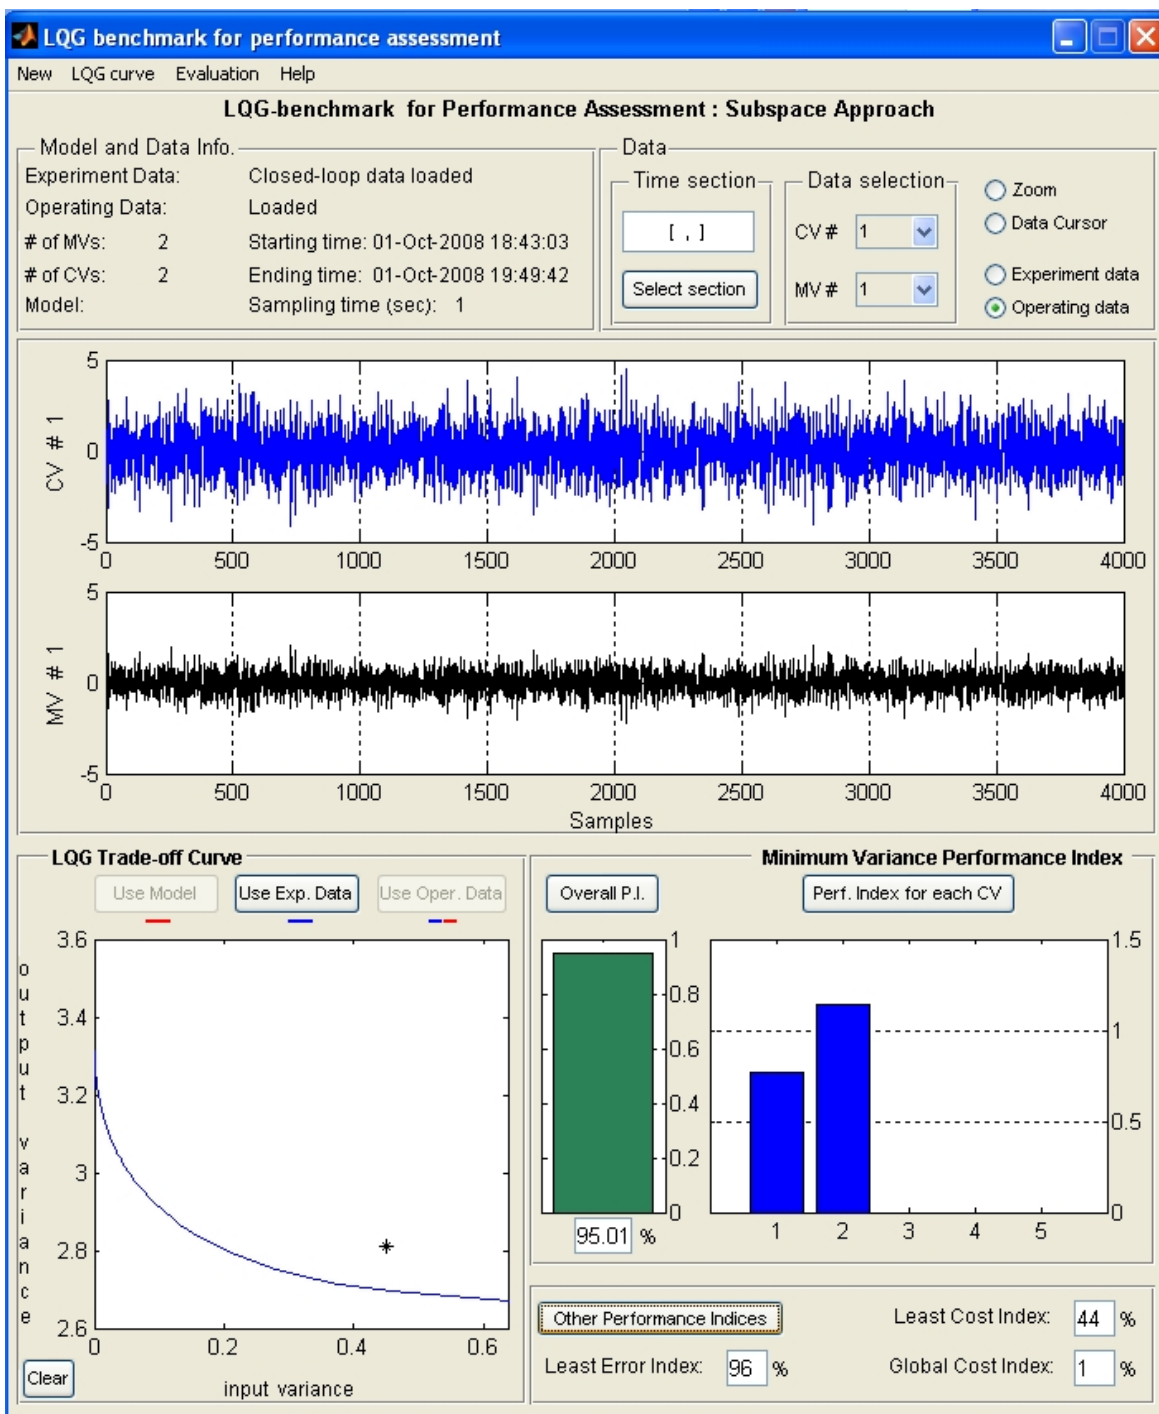

Figure 7: Performance indices obtained for a MIMO process
| Figure 7: Performance indices obtained for a MIMO process.....           | 7  |
- 13) Upload a set of closed-loop routine operating data. The corresponding input-output variance point (actual control operating point) will appear on the figure as in Figure 7.
- 14) At this time you can have all the performance indices. To get the overall minimum variance performance index press the **‘Overall P.I.’ button** in the **‘Minimum Variance Performance Index’ panel**. To find MVC index for each controlled variable, press **‘Perf. Index for each CV’ button** in the **‘Minimum Variance Performance Index’ panel**. There are 3 more indices available in the **‘Other Performance Indices’ panel**. Please see Figure 7. For the definitions of different indices, please see “Detailed Instruction” section of the manual. Note that if either the curve has not been generated yet or operating data has not been uploaded (no actual point), you will receive an error message box when pressing any of the performance buttons.